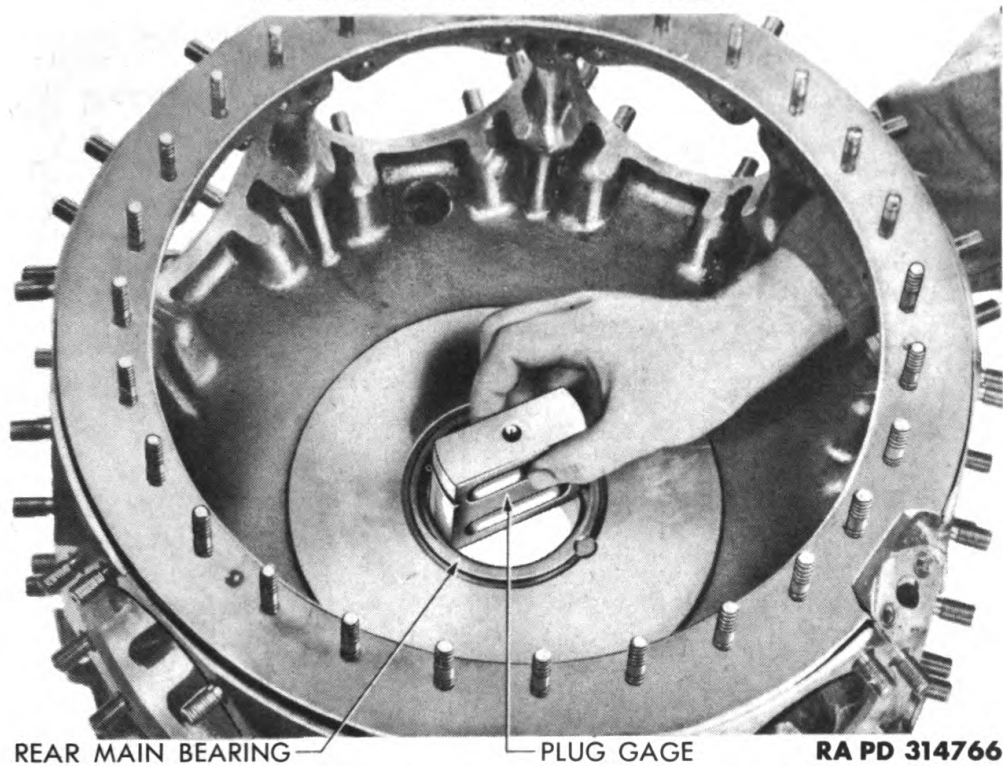
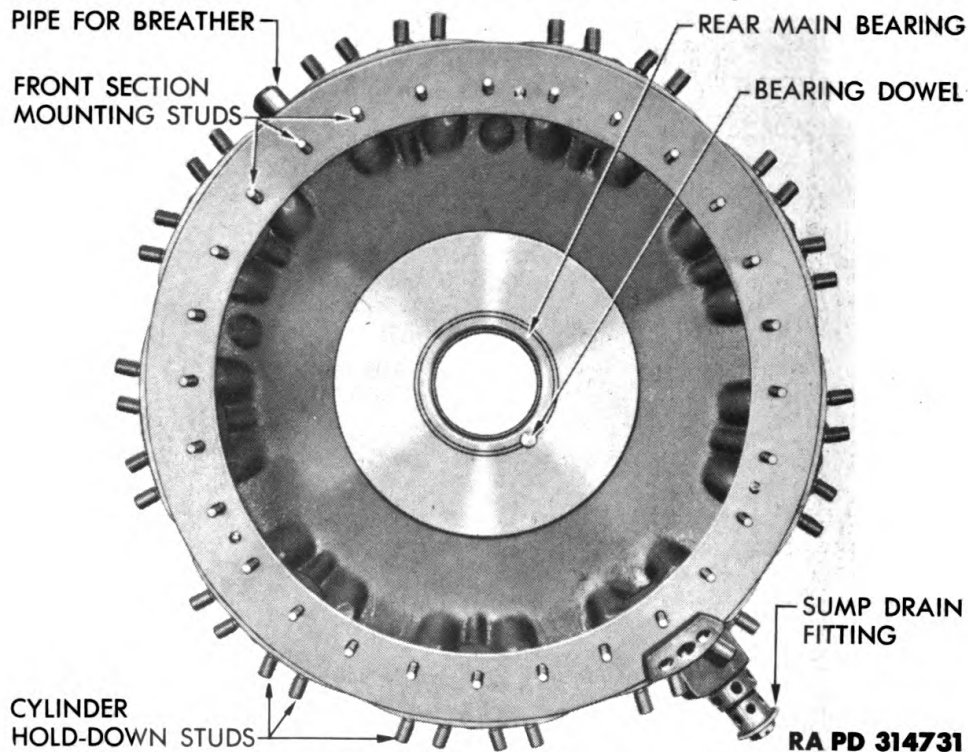

Figure 84 – Checking Rear Main Bearing Diameter
Figure 85 — Rear Main Bearing Dowel
b. Rear Main Bearing. Inspect rear main bearing for looseness. Check surface of bearing for scoring or indications of wear. Inspect the condition of the threads of the cam hub bearing support. Measure the diameter of the rear main bearing with micrometer or plug gage (fig. 84). If diameter does not measure between 3.2215 and 3.2225 inches or if bearing is scored or otherwise damaged, replace bearing. If bearing does not have to be replaced, check the dowel which locks the bearing to the crankcase (fig. 85). If dowel is loose, knock it out with punch, and press in an oversize dowel. After the oversize dowel has been installed, peen the main bearing flange slightly over the head of the dowel.
(1) REMOVE BEARING. Place crankcase section in oven and heat to 300° F. Remove crankcase section from oven. Slide out bearing and dowel. Select and check fit of new bearing. Refer to the Table of Limits for proper bearing and bore dimensions. If the inside diameter of the bearing bore is oversize, use an oversize bearing, and ream the bearing bore to the proper size to receive oversize bearing.
(2) INSTALL BEARING. Shrink new bearing with dry ice or ice water. Place crankcase in oven and heat to 300° F. Remove crank-